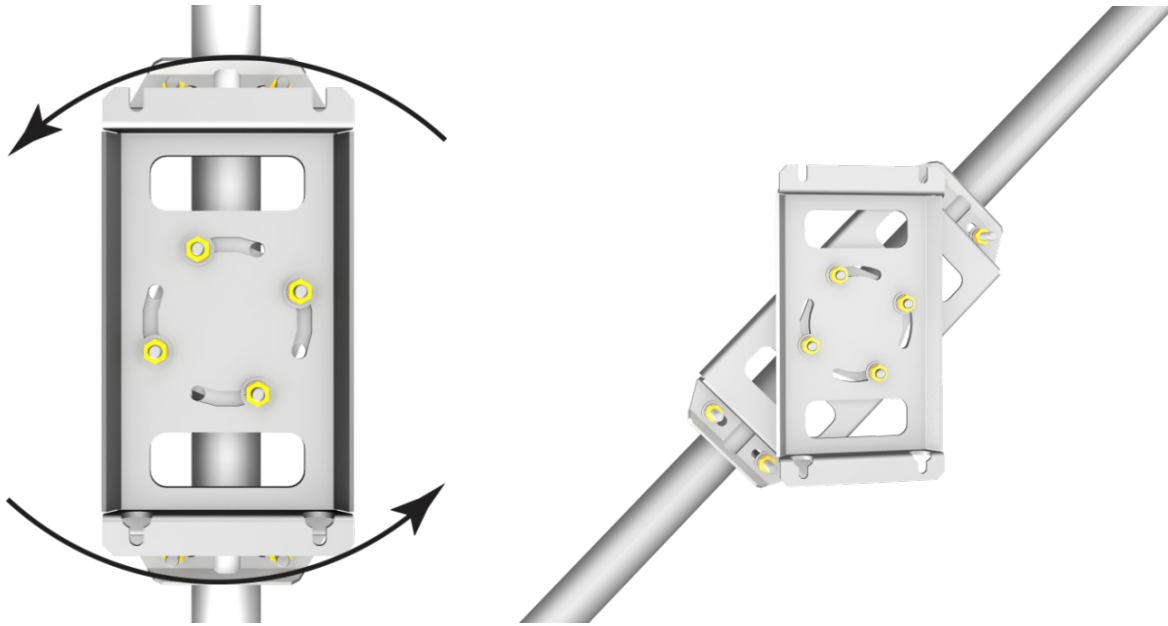
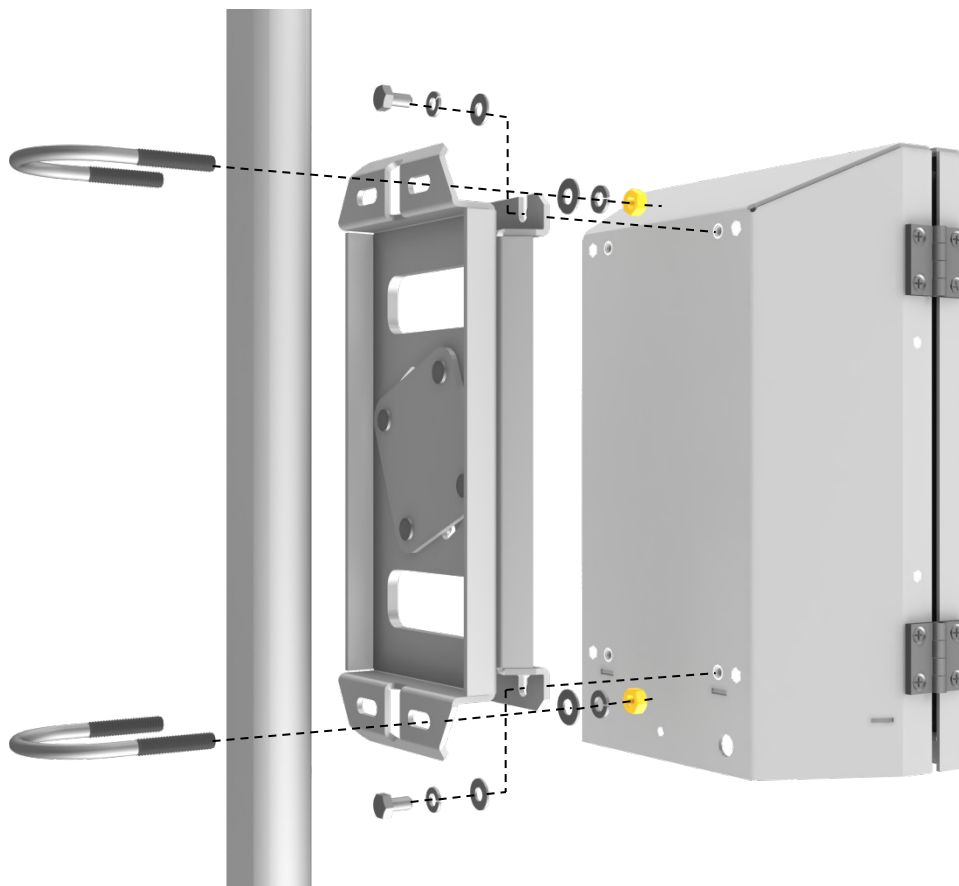

FIGURE 6-2. EC100-enclosure mounting bracket mounted on a vertical mast (left) and a tripod leg (right)
FIGURE 6-3. Exploded view of mounting the EC100 enclosure
7. Attach the EC100 enclosure to the mast, tripod leg, or other part of the mounting structure. To do this, attach the EC100-enclosure mounting bracket to the pipe by loosely tightening the u-bolts around the pipe. The u-bolts are found in the mesh pocket inside the EC100 enclosure. If the pipe does not run vertically (for example, if the enclosure is being attached to a leg of a tripod), rotate the bracket to the side of the pipe. The enclosure must hang upright. Make angle adjustments as needed by loosening the four nuts and rotating the bracket plates relative to one another. If the necessary angle cannot be achieved in the given orientation, the four nuts may be removed and the top plate indexed by 90° to allow the bracket to travel in the other direction (see FIGURE 6-2). Once adjusted, tighten all the nuts. Finally, attach the EC100 enclosure to the bracket by loosening the bolts on the back of the enclosure, hanging the enclosure on the mounting bracket (it should slide into place and be able to securely hang from the bracket), and tightening the bolts (see FIGURE 6-3).